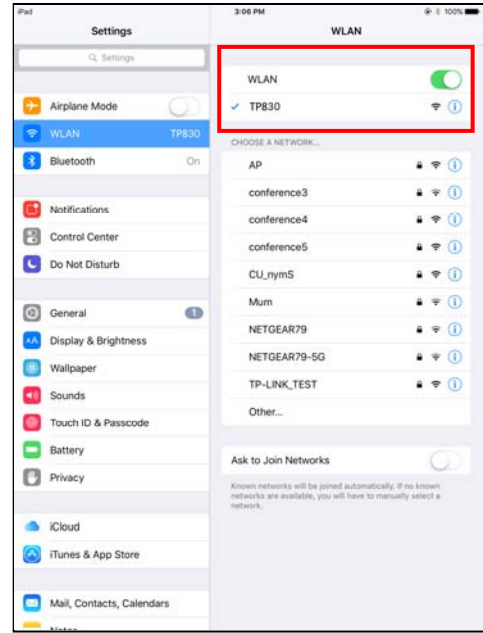

Figure 36
1.4 Select the “TP830” hotspot, as shown in Figure 36.